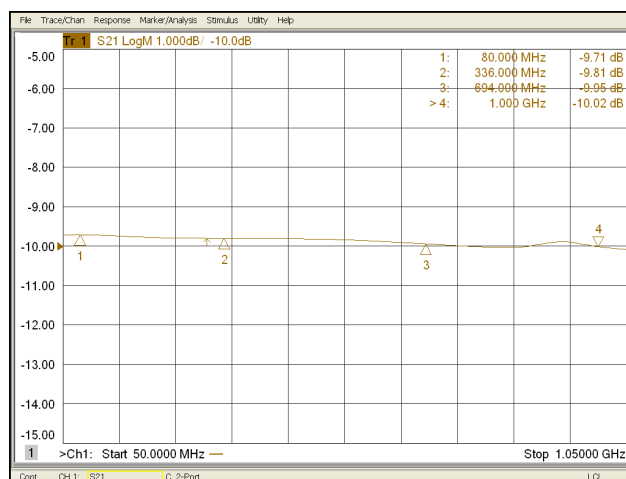

Figure 4-5. Typical Eight-Way Splitter Insertion Loss
5. A typical Eight-Way Splitter Insertion Loss is shown in Figure 4-5. The unused ports must be terminated when checking the insertion loss.